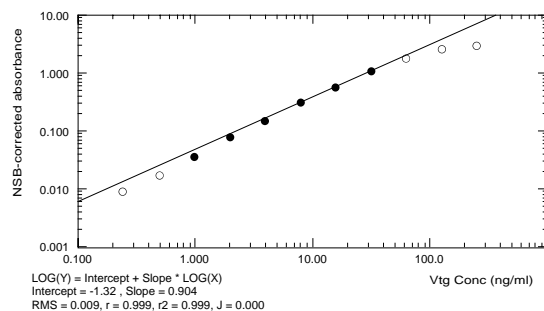
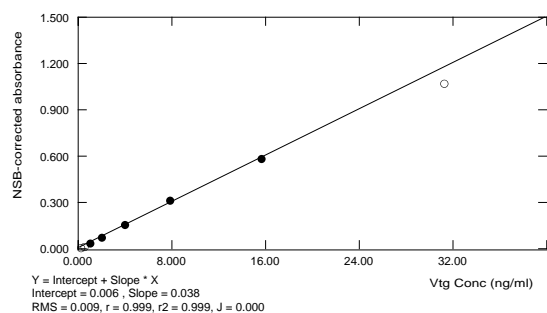
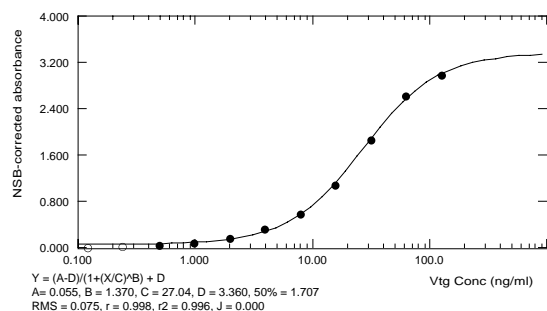

Figure 4a): Log-log curve fit. Omitted data points are shown as open circles.
Figure 4b): Linear curve fit. Omitted data points are shown as open circles.
Figure 4c): 4-parameter curve fit (see note under pt. 2). Omitted data points are shown as open circles.
2. Plot absorbance values against the Vtg concentration. Perform a regression analysis, using for example log-log (Figure 4a), linear (Figure 4b) or 4-parameter (Figure 4c) transformation of the data.